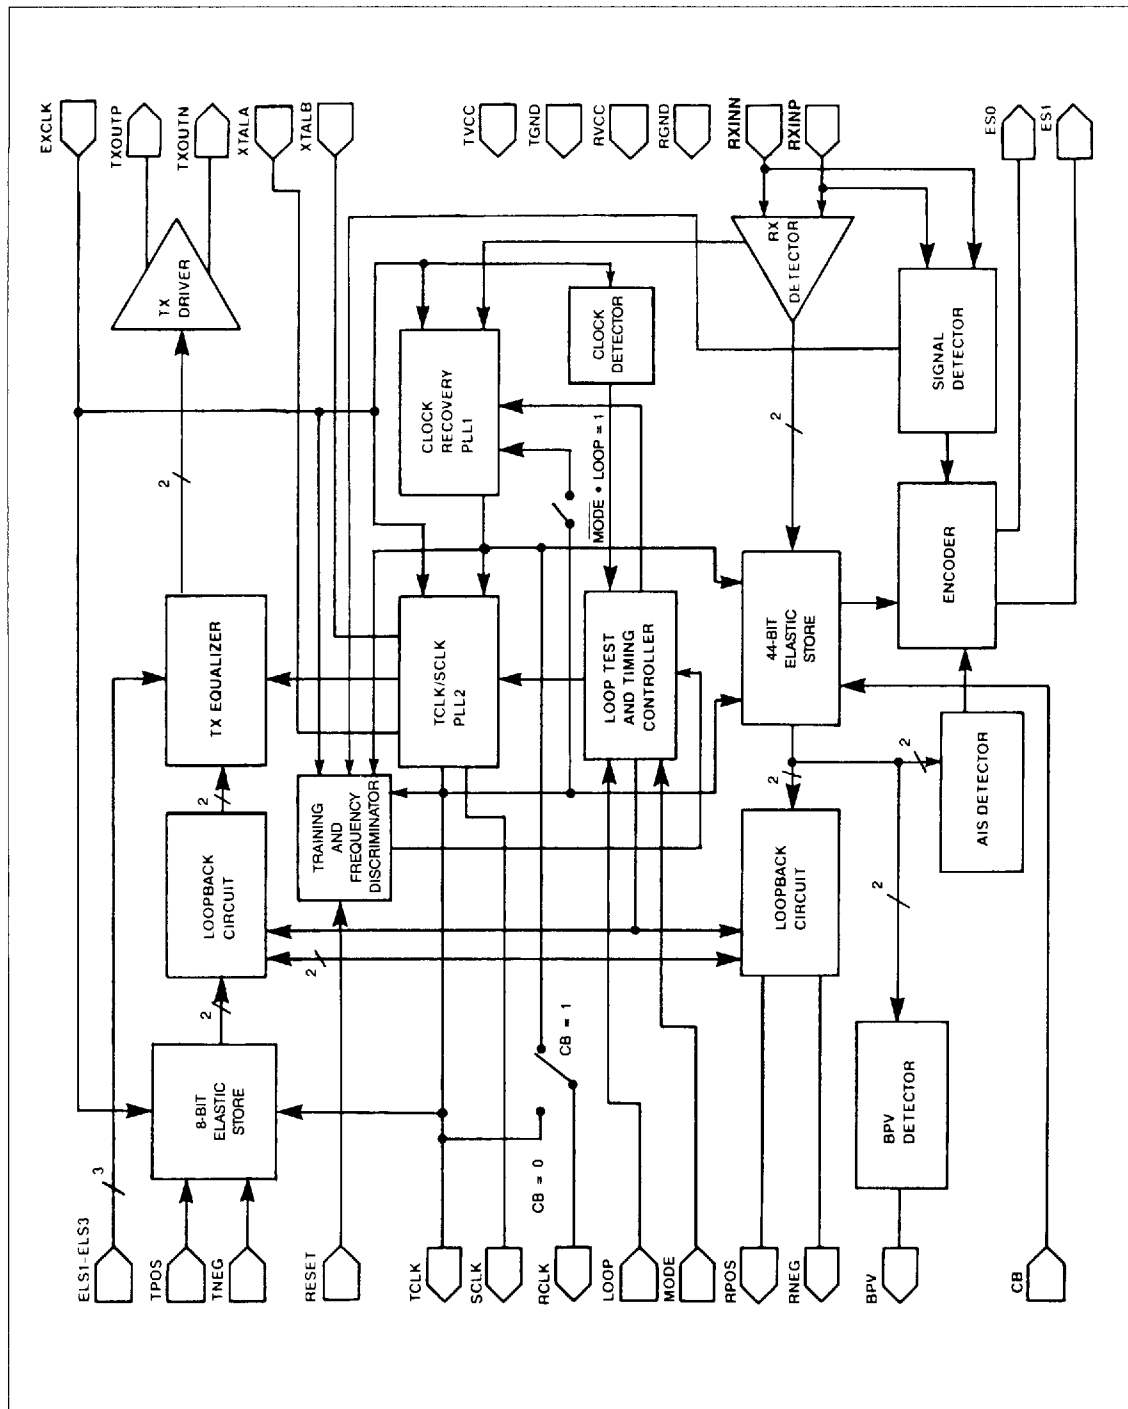
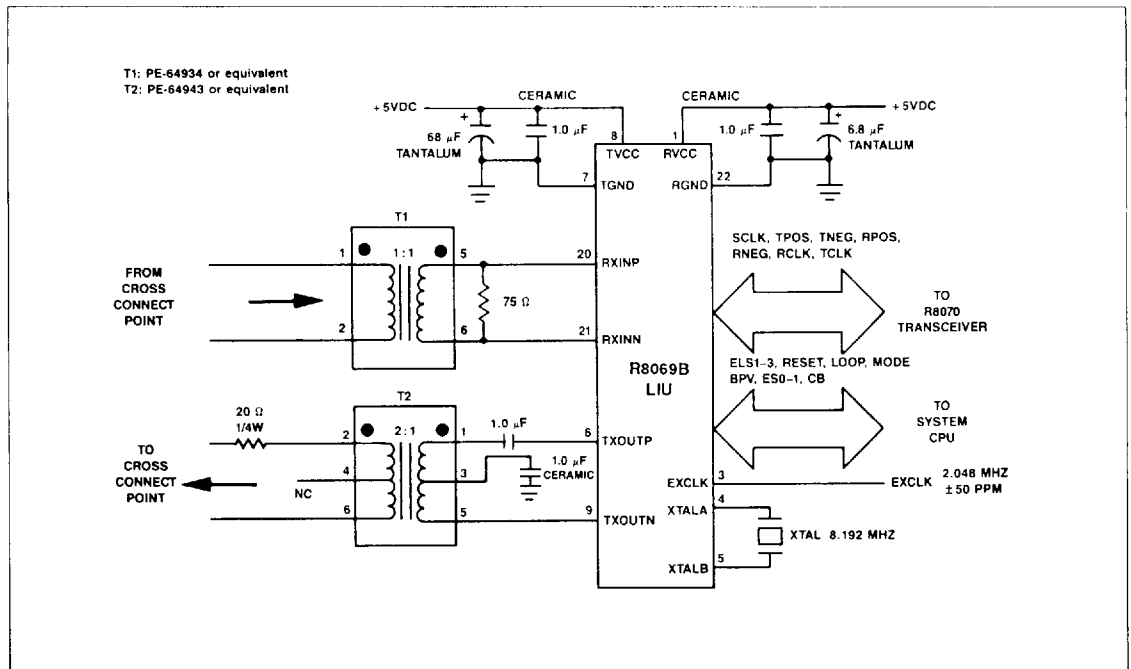

Figure 4. R8069B LIU Functional Block Diagram
Figure 5. Connection to 75 Ohm CEPT Coax Cable
The R8069B LIU contains both analog and digital circuitry which independently process transmit and receive primary rate voice or data information. Circuitry to provide master, slave, local loopback, remote loopback, and their derivatives is also included. A simplified block diagram of the R8069B LIU is depicted in Figure 4. Typical R8069B LIU connections in CEPT and T-1 applications are shown in Figures 5, 6, and 7.
Three encoded inputs, ELS1-ELS3, allow selection of cable length equalization and clock rates (Table 2). Equalization of cable length of 0-660 feet in increments of 110 feet is selectable for T-1 line. A 20 Ω resistor should be connected in series with 75 Ω coaxial cable connector (see Figure 5 and Table 2).
2. See Figures 5 and 6.
3. If the selected equalization line code is ELS3 = H, ELS2 = H, and ELS1 = L, then a 20 Ω resistor is required at the line side of the transmit transformer (see Figure 5). This is the recommended mode in a 75 Ω PCM30 application to ensure that the pulse shape meets G.703.